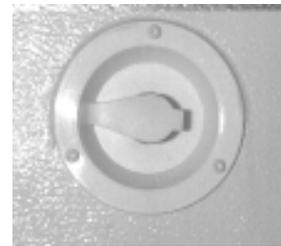

Fig. 4-2
3. Water may be received into the system through a direct hookup, referred to as "city water connection," (Fig. 4-2) when attached to entry supply and water hose.